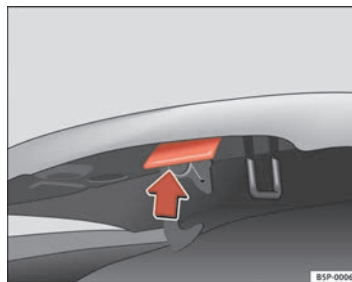

Fig. 177 Release catch under the bonnet
- Press the release catch under the bonnet upwards ⇒ **fig. 177**. This will release the arrester hook under the bonnet.